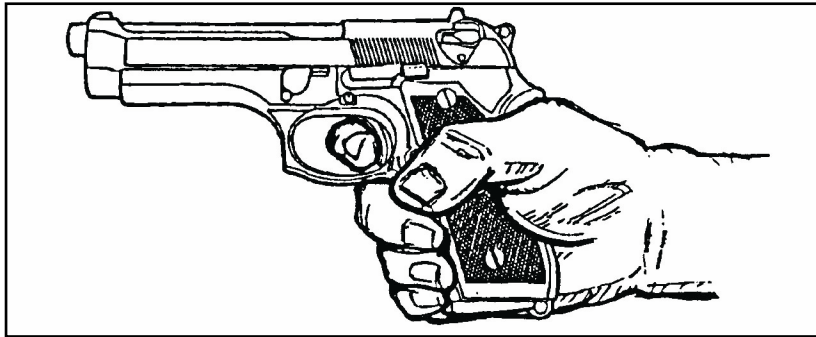

Figure 071-004-0006-2. One-hand grip
b. Unsupported grips. You may use any of three nonfiring hand grips to support your firing hand (figures 071-004-0006-3, 4, and 5).